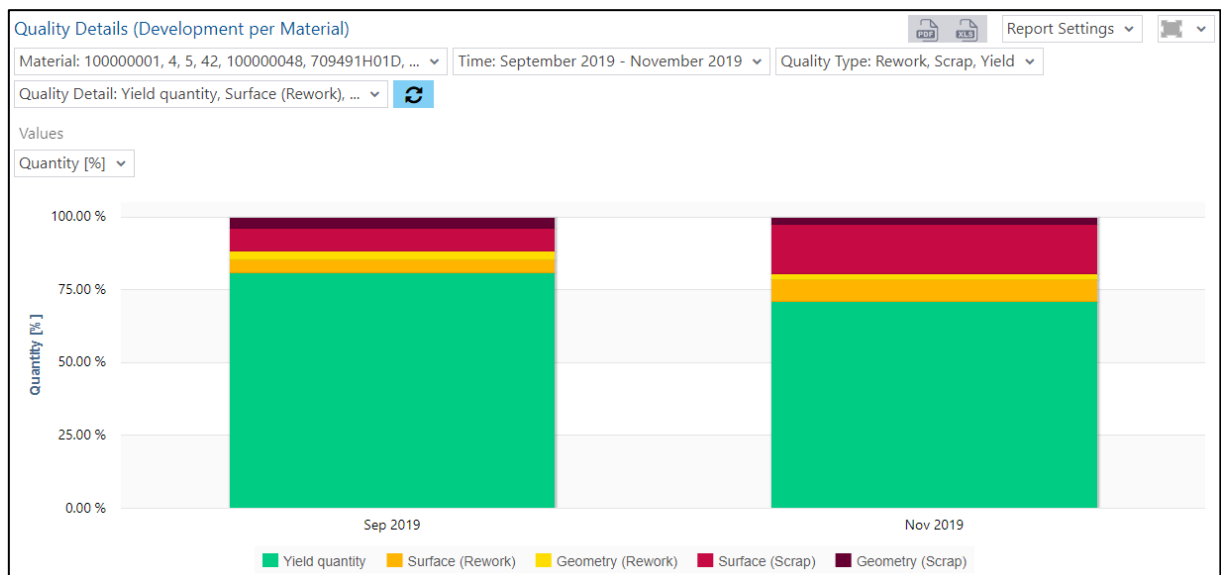

Fig. 121: Quality details (development per material) as a column chart
- Quality details (development per material) as a column chart (fig. 121):